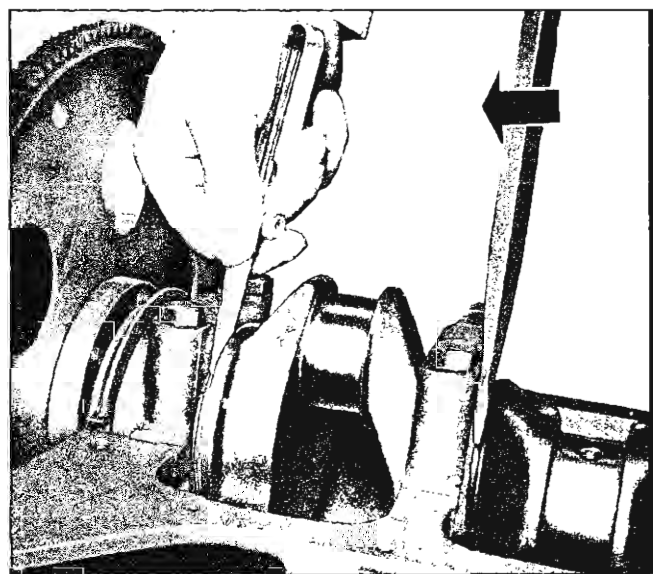

Fig. 54—Measuring Crankshaft End Play
9. Check the end play by forcing the crankshaft to its extreme front position. Check at the front side of the rear main bearing with a feeler gauge (fig. 54). This clearance should be from .002" to .006"